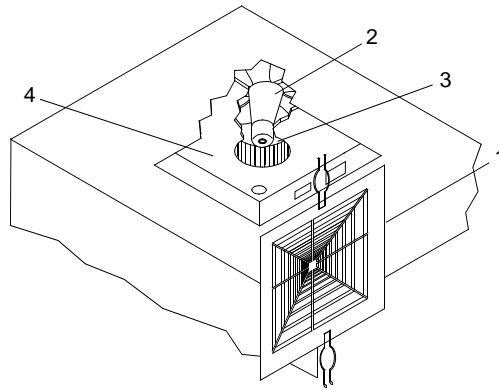

Figure 2. Personnel Shelter Vent Fan
2. Pull down vent fan cover (figure 2, item 1).
3. Clean fan blades (figure 2, item 2) and vent cavity (figure 2, item 3).
4. Clean debris from vent fan cover (figure 2, item 1) and surface of vent fan panel (figure 2, item 4).
5. Remove cleaner residue from vent cover (figure 2, item 1), fan blades (figure 2, item 2) and vent cavity (figure 2, item 3).
6. Allow fan blades (figure 2, item 2), vent cavity (figure 2, item 3) and surface of vent fan panel (figure 2, item 4) to air dry.
1. Inspect fan blades (figure 2, item 2) for cracks. None are allowed. If cracks are found, replace vent fan. (WP 0055 00)
3. Close vent fan cover (figure 2, item 1).